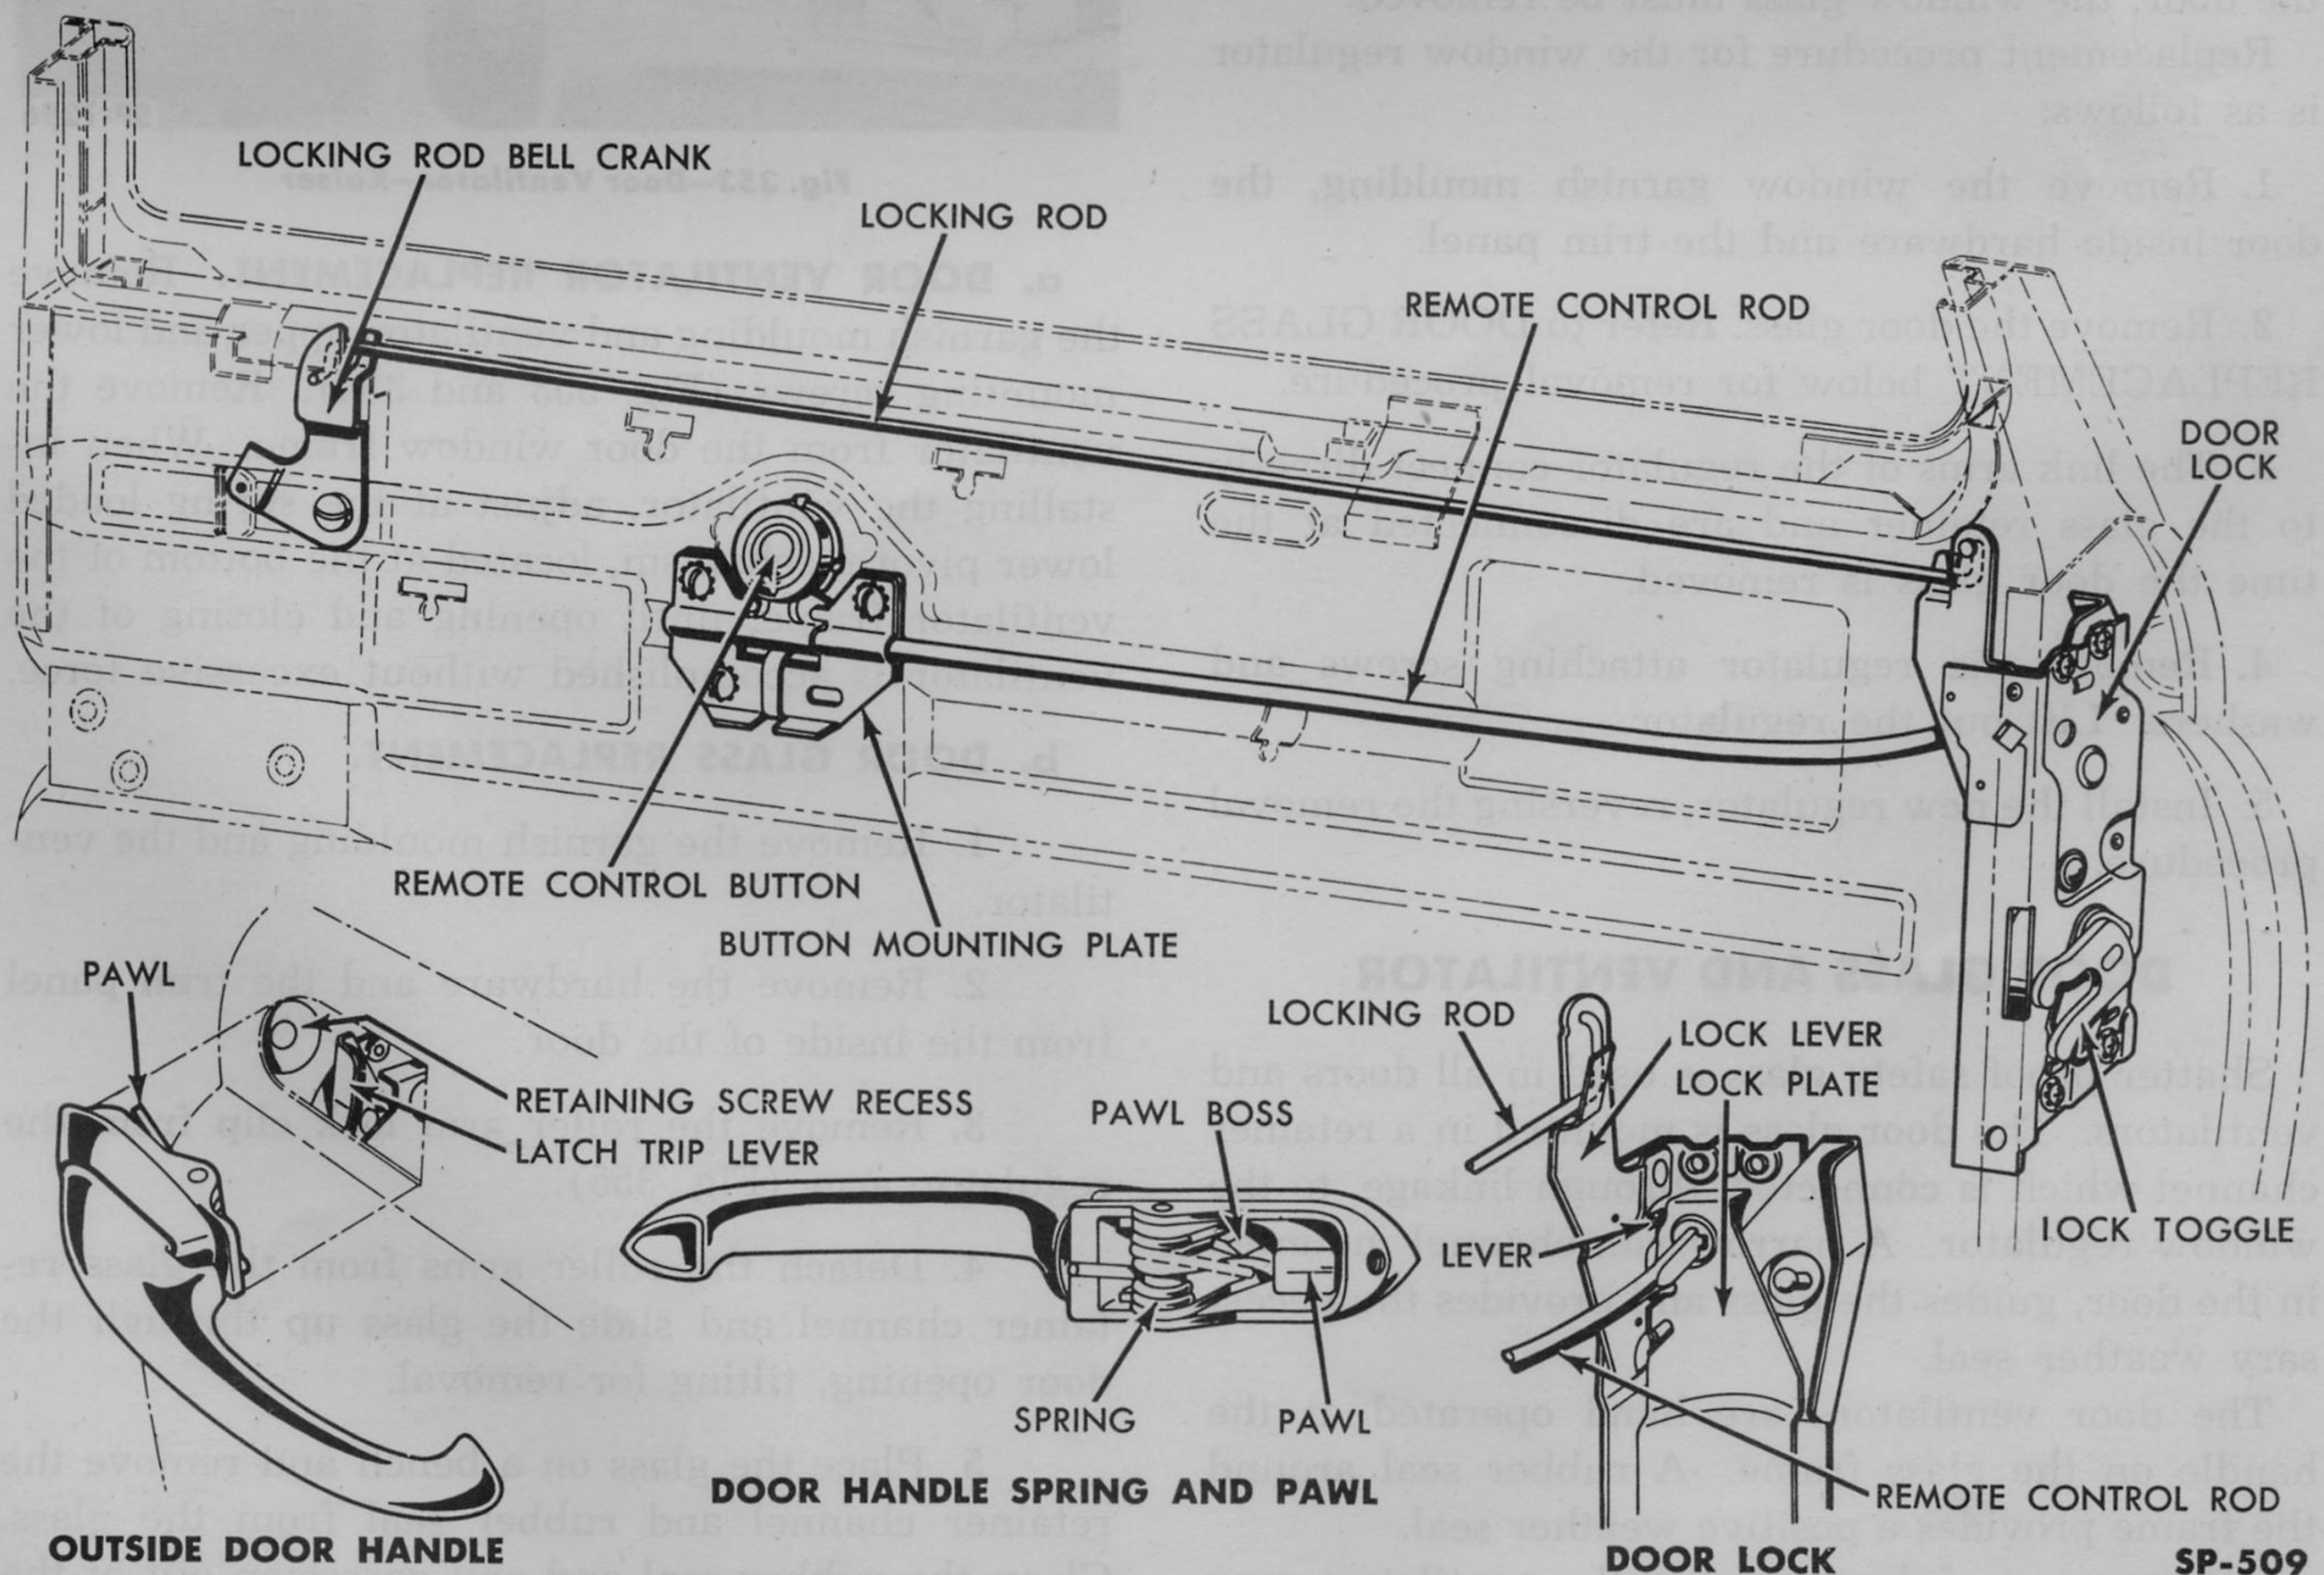

Fig. 352—Door Lock Controls—Frazer
**1. Description and Operation.** Door locks, mounted on the door inner panel, are remote controlled from inside the car. Pressing the button located near the center of the door trim panel just beneath the garnish moulding, operates the remote control rod extending from the push button to the lock, tripping the lock release lever (Fig. 352).
**2. Door Lock and Controls Replacement** (Fig. 352). Remove the garnish moulding and the door assist handle. Partially remove the trim panel to provide access to the lock and remote control mechanism. Remove the door lock, the remote control, and inside door lock attaching screws and washers and the lower window channel screws. Remove the complete mechanism. **NOTE:** On the front doors, the door lock cylinder must be removed before the lock may be removed.
Check the clearance between the pawl in the handle and the latch trip lever (Inset, Fig. 352). This clearance must be  $\frac{1}{32}$  inch in the fully returned position.
Check the push button remote control rod for binding in the mounting plate or against the door inner panel channel. Also check for twisting where the remote control rod enters the lock plate (Inset, Fig. 352).
Remove the garnish moulding and trim panel. Trip the lock by pushing the button or by prying the latch lever with a screwdriver inserted through the opening of the door inner panel. Then, remove the outside door handle. Check the position of the pawl spring in the handle (Inset, Fig. 352).
Make certain that the door handle base is flush with the door outside panel. If not, remove the handle and bend the door handle retaining screw recess (Inset, Fig. 352) in the door, sufficiently to permit the base of the handle to fit flush with the door outside panel. Be sure to use the proper handle
Check for  $\frac{1}{32}$  inch clearance between the handle pawl and the latch trip lever (Inset, Fig. 352). If the latch trip lever binds, check the rivets, loosen if necessary, clean, and lubricate as previously directed. Be certain that the lock lever is in the fully unlocked position.
lock lever (Inset, Fig. 352). If not, bend the tang slightly to permit full release.